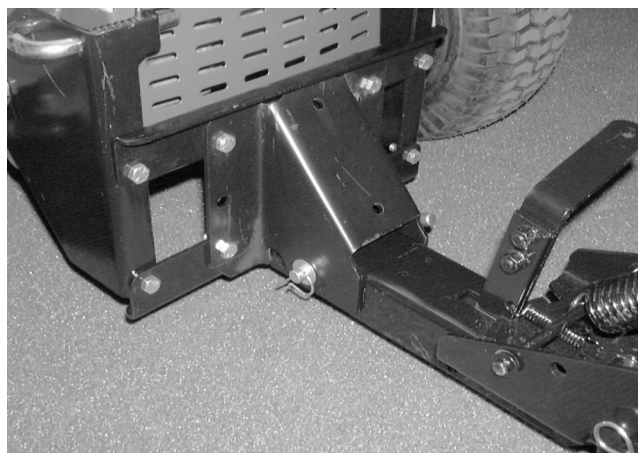

FIGURE 8.
10. Attach the channel assembly to the tractor by placing the end of the channel into the pivot support bracket. Insert the channel pivot pin through the holes in the pivot support bracket and channel. Secure with the hairpin clip. See figure 8.